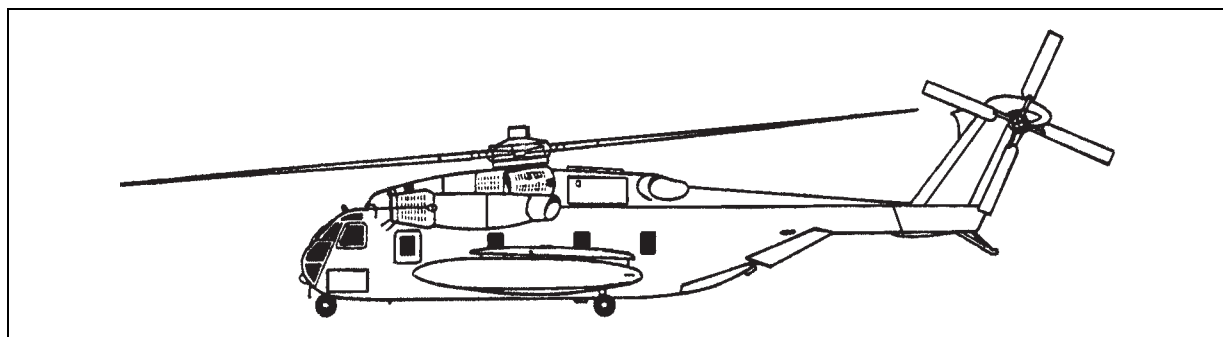

Figure 2-18. H-53E Super Stallion
- **H-53E.** The triple engine H-53E Super Stallion (figure 2-18) is a growth variant of the CH-53D. Its primary mission is either vertical on board delivery, airborne mine countermeasures, or aerial delivery of supplies and equipment.